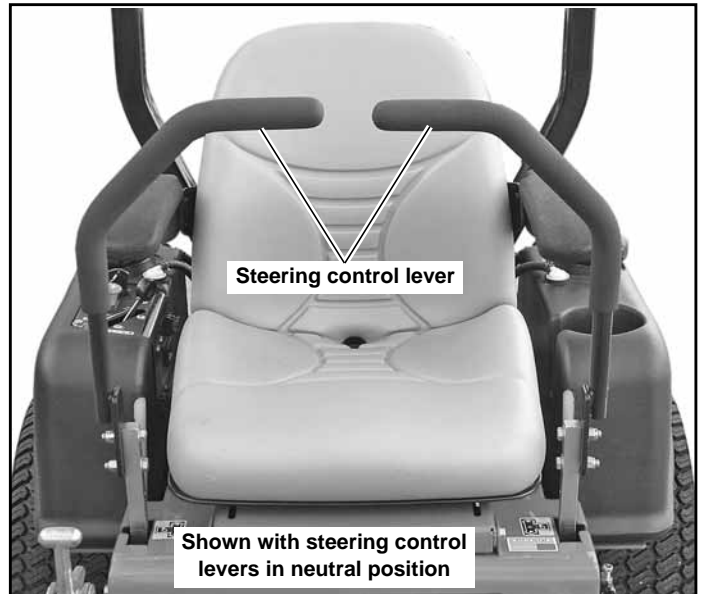

Figure 4-13
2. Position the control lever in the neutral position. Disengage the deck clutch switch. Figure 4-13